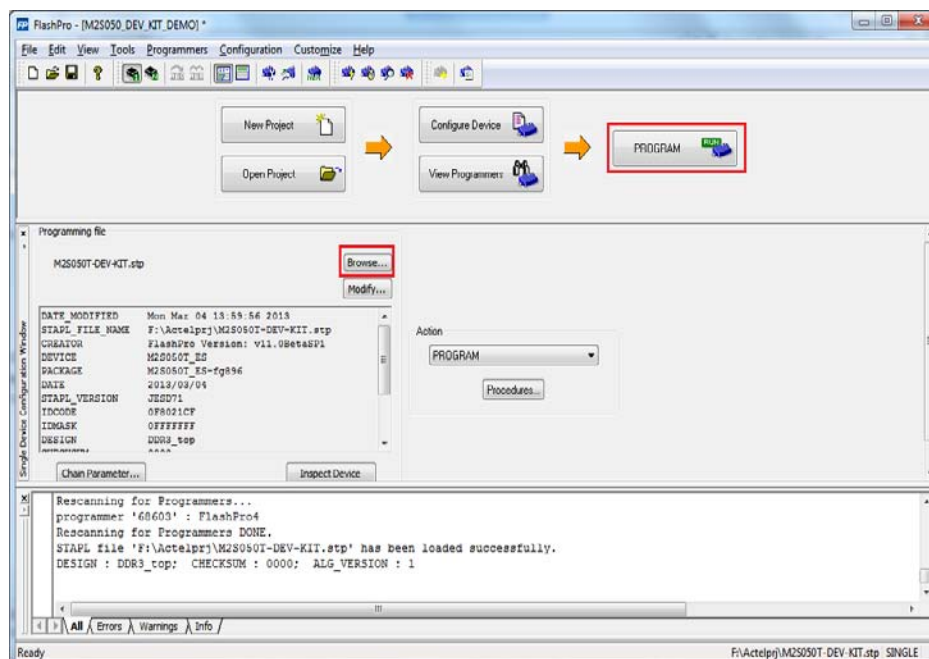

Figure 31. Program The Device
3. Click **Configure Device**. This shows the existing **Programming file** section, as shown in Figure 31.